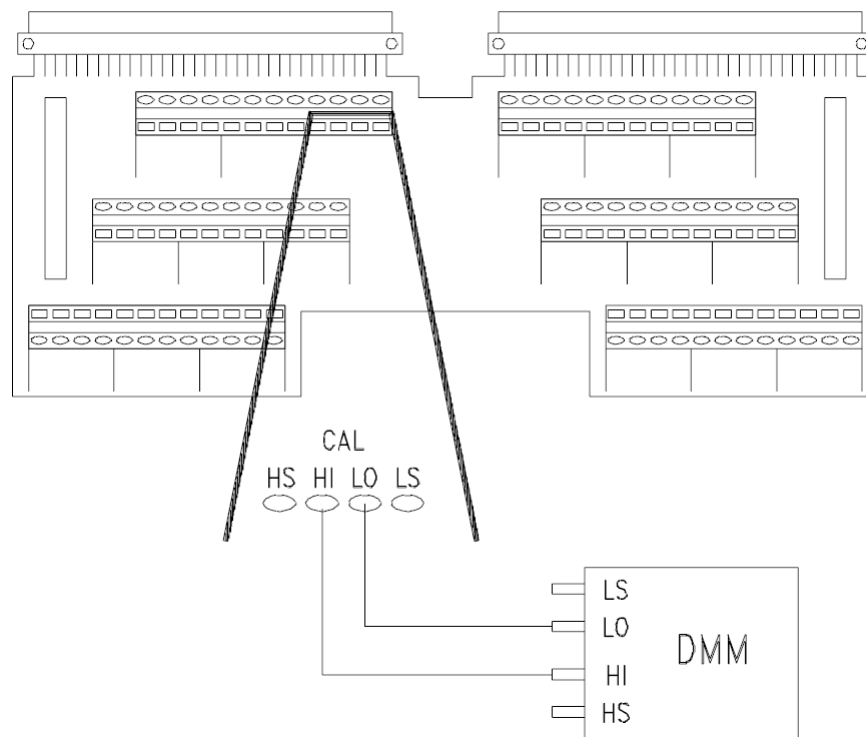

Figure D-5 Current Calibration Connections (CAL)
- 1** Make the connections shown in Figure D-5 or D-6.